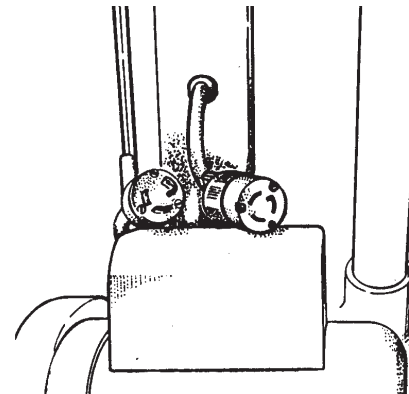

Figure 3
3. Twist and remove handle pigtail from motor cord. See figure 3.